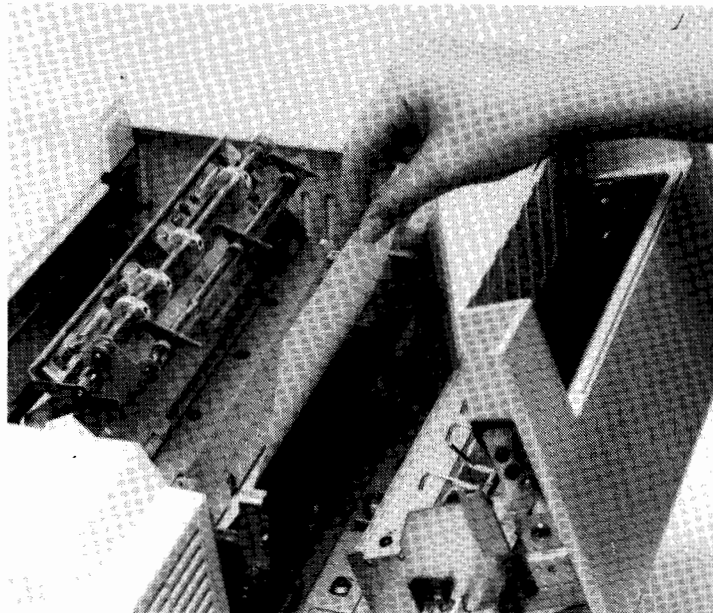

Figure 5-7. Removing Misfed Paper
- f. Remove the misfed paper with extreme care so that no torn pieces remain in the fusing unit (figure 5-7).